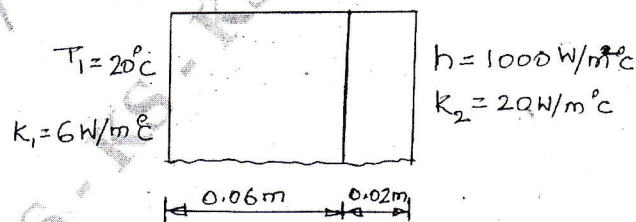

Fig. Q8 (b)
- b. Determine the temperature distribution through the composite wall subjected to convection heat loss on the right side surface with convective heat transfer coefficient as shown in Fig. Q8 (b). The ambient temperature is -5°C . Consider area (A) of the wall to be 1 m^2 . (14 Marks)